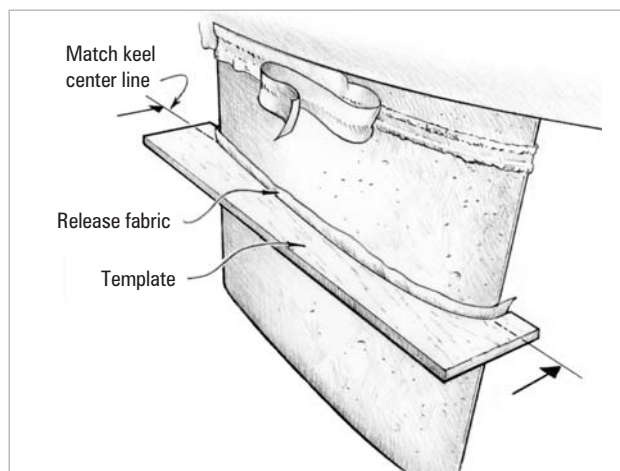

Figure 8-6 Make an impression of each template profile in the epoxy mixture. Sand the excess mixture flush with the profile after the mixture has cured.
6. Push the templates into the soft mixture to make an impression of the exact keel profile at each template location. To gauge the depth of the impression (height of the profile), push the template into the mixture until the centerlines marked on the template match the centerlines marked on the leading and trailing edges of the keel (Figure 8-6). If an area of the ridge is too low to contact the template when it is properly aligned, squeeze the material under the release fabric upward so it comes in contact with the template. When you're satisfied, carefully remove the template, leave the release fabric in place, and allow the mixture to cure thoroughly.